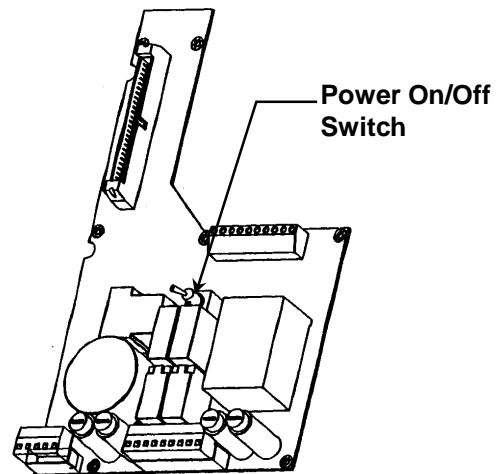

Figure 1a: On/Off Switch Power Supply Board
To make electrical connections, turn off the control using the general ON/OFF switch located on the power supply board, see Figure 1a for location of ON/OFF switch.
- Switching the power ON/OFF switch, located on the power supply board, to the ON position, see Figure 1a.